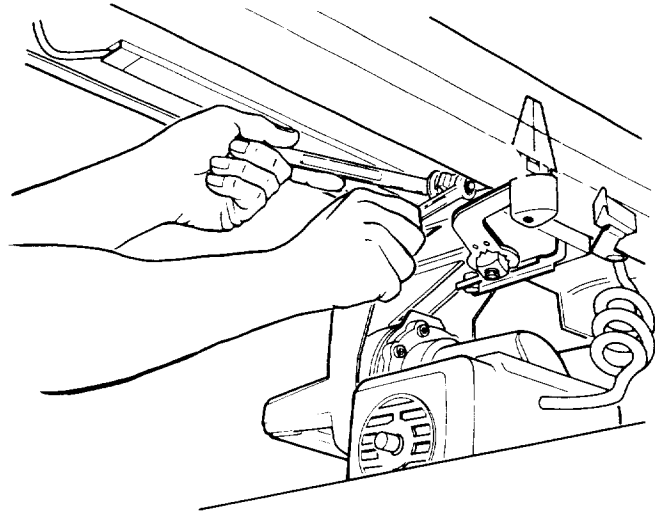

Fig. 136 - Location of Hex Nut
2. To adjust the bearing, use a 9/16 inch wrench to hold the bolt head while using a 1/2 inch wrench to loosen the hex nut. (Figure 136)